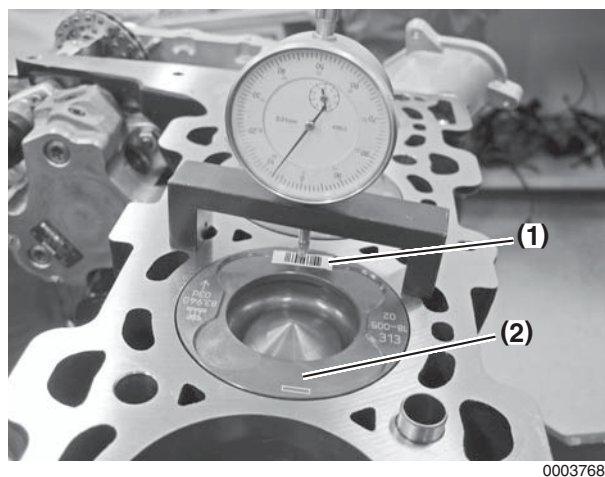

Figure 5-34
- Slide fixture and indicator over cleaned area of piston (**Figure 5-34, (1)**). Rotate the crankshaft to determine the highest point of piston travel and record the measurement. Repeat the procedure in a second area (**Figure 5-34, (2)**).